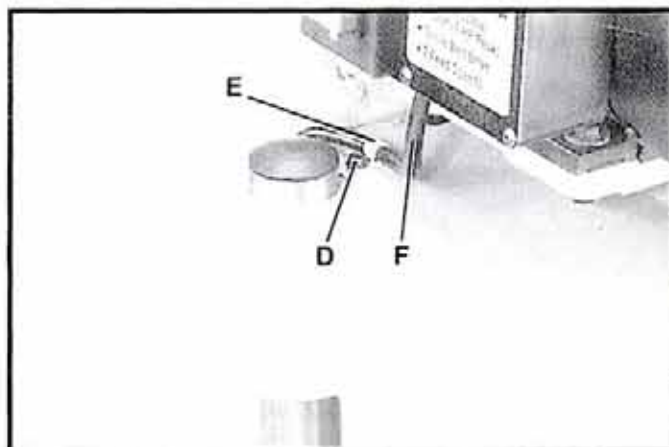

Fig. 14
2. Fasten the left corner of the cover to the top of the planer using the remaining screw (D) Fig. 14, and cord clamp (E). **NOTE:** The motor cord (F) must be inserted and positioned into the cord clamp as shown.